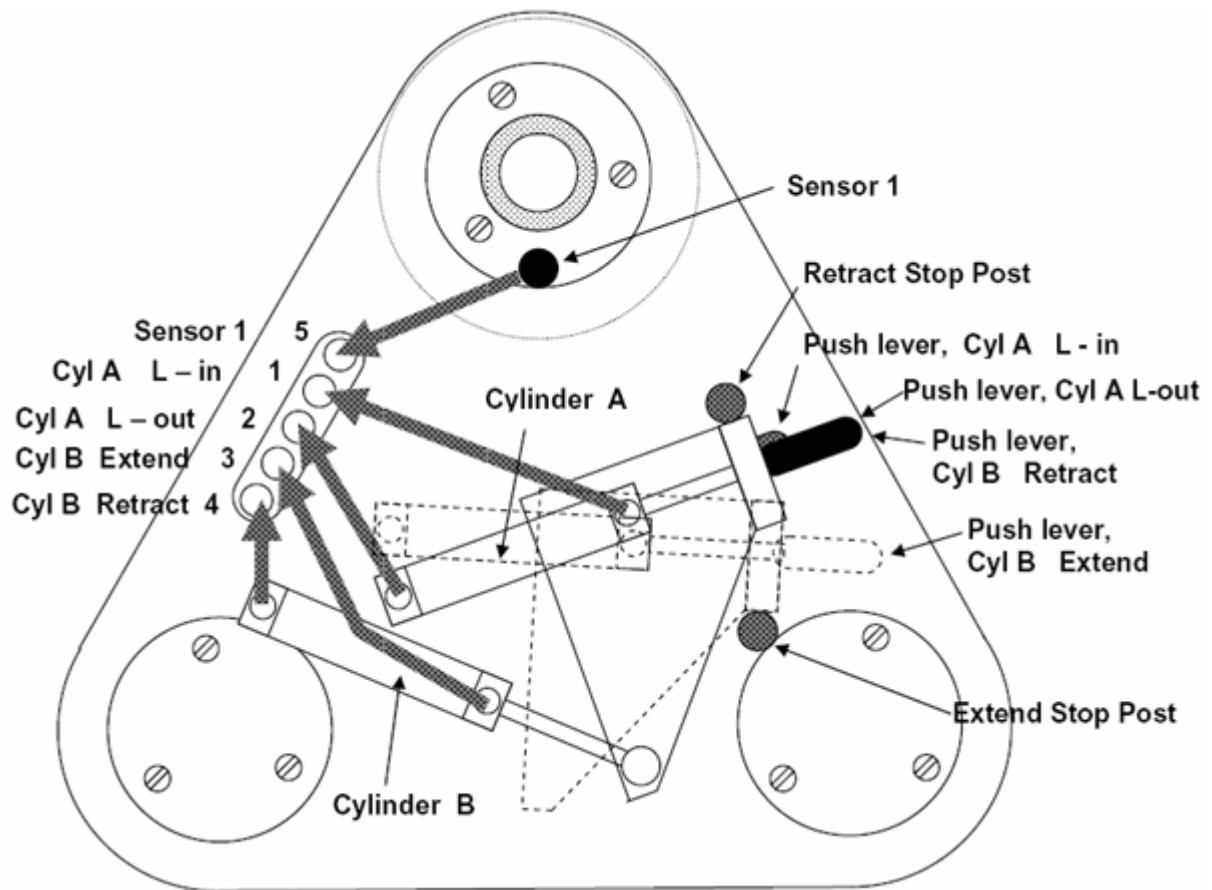
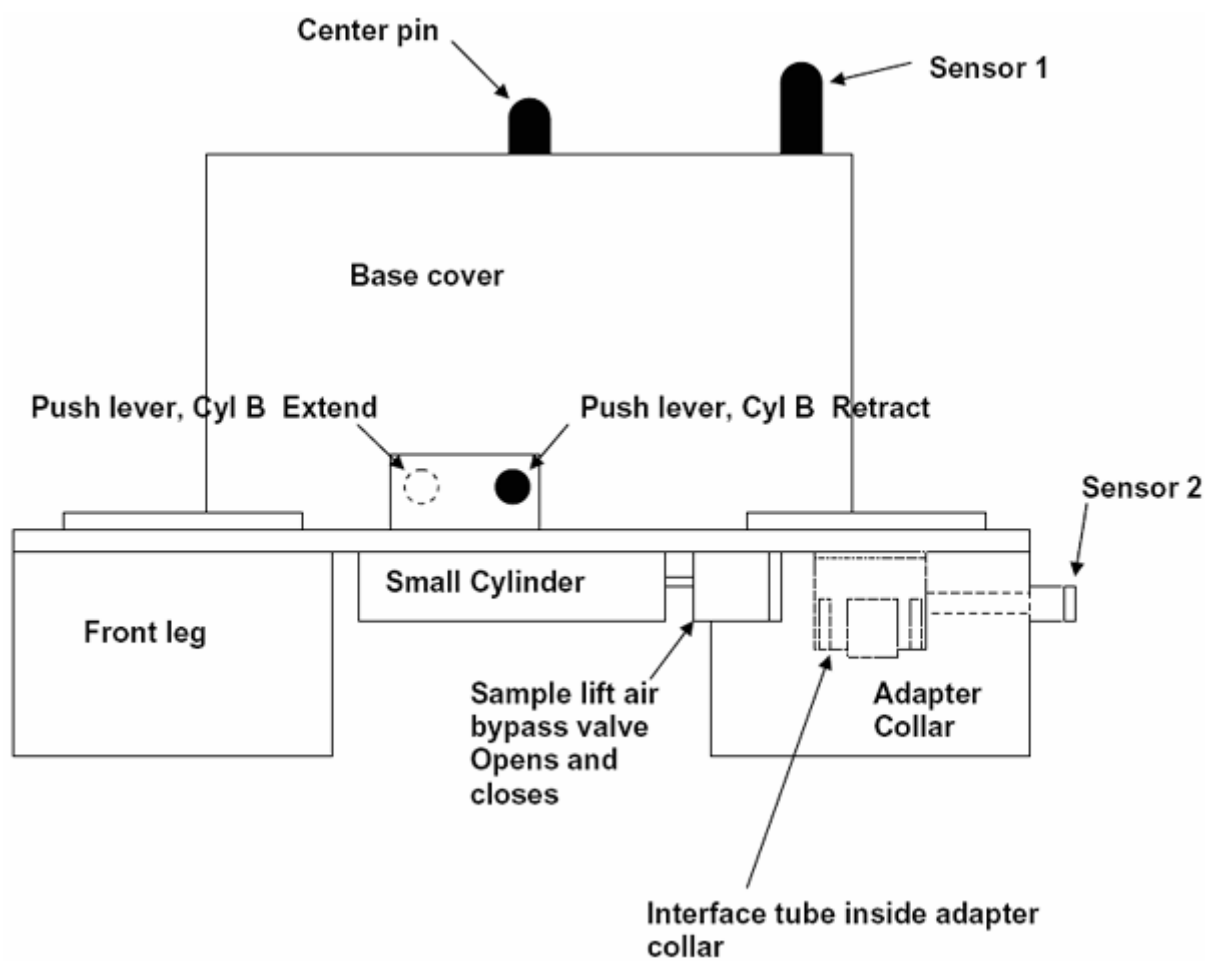

Figure A.1. Top View
Figure A.2. Side View
See **Figure A.1.** and **Figure A.2.** for location of the adapter tube.
1. Make sure the motion controller is switched on. Remove the sample holder tray. Refer to Figure A.2. Try to move manually the black push lever at the side of the base cover to the left (to position Cyl B Extend) and also try to push it in. It should require a great force to move the push lever.